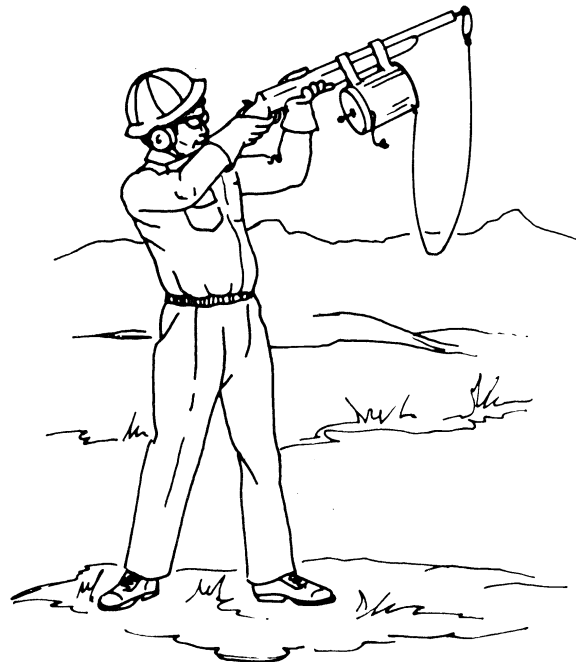

Fig. 4
3.11 Place cartridge in chamber and **seat projectile firmly on cartridge**. Place the gun firmly against the shoulder. Support the stock with the forward hand fingers over the barrel to hold the gun from kicking up. Keep the **face away** from the stock to prevent injury. It is not necessary to closely aim along the barrel when sighting in. (See Fig. 4.)